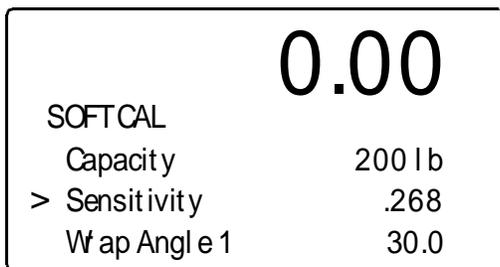

FIG. 2-22 SOFT CALIBRATION MENU/ENTERING SENSITIVITY OF THE LOAD CELLS
- Step 8. Press on the “-” button until the cursor is in front of “Sensitivity”. (See Fig. 2-22)